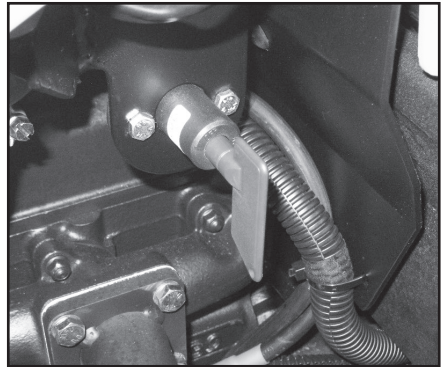

Fig. 5.8
- The switch is set to the "OFF" position by turning it 1/4 of a turn in the anti-clockwise direction: electrical system not powered (Fig. 5.8);